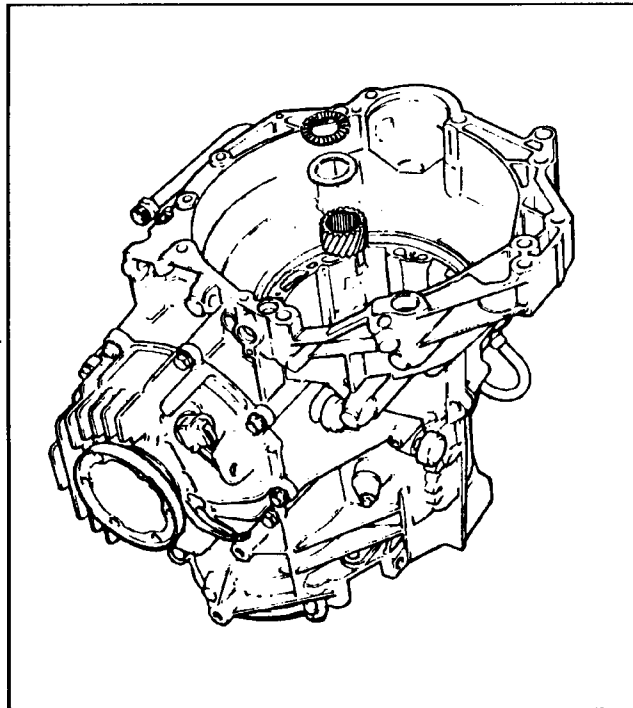

Figure 66
18. Remove the torrrington bearing and the race for the small sun gear and then remove the small sun gear (See Figure 66).